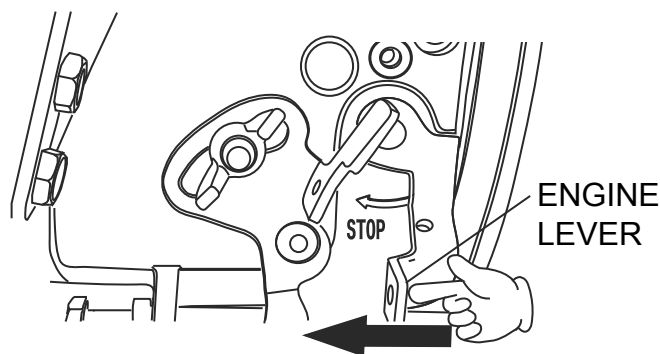

Figure 18. Emergency Shutdown
5. Place the key switch in the stop position or open the back cover of the light tower and turn the engine lever to the stop position (Figure 18).